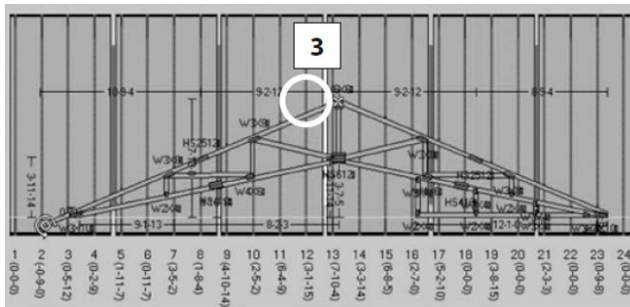

FIGURE 31
To re-position the truss, use the buttons below which can be found on the Main screen (Figure 31)
- Click to select the reference point (rotate from) (Figure 31)